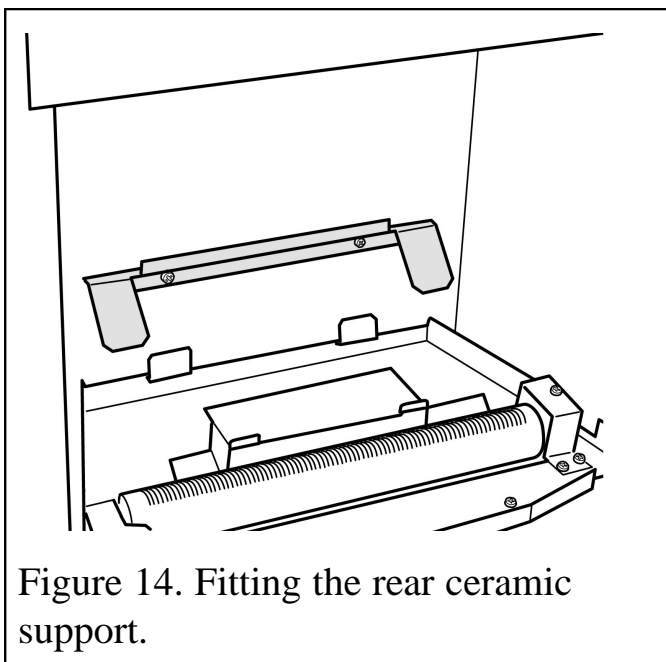

Figure 14. Fitting the rear ceramic support.
8. This appliance is supplied with a rear ceramic support bracket. Fit this using two screws supplied (See figure 14).